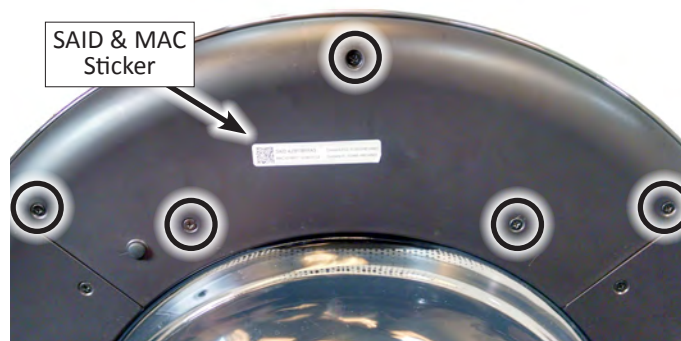

Figure 2 - Upper Door Cover
4. Using a Phillips screwdriver, remove the five (5) screws indicated in Figure 2. Remove the upper door cover and set aside.
An extra SAID & MAC Sticker is provided with the service replacement HMI. Be sure to place the replacement sticker over the existing sticker on the upper door cover. See Figure 2.